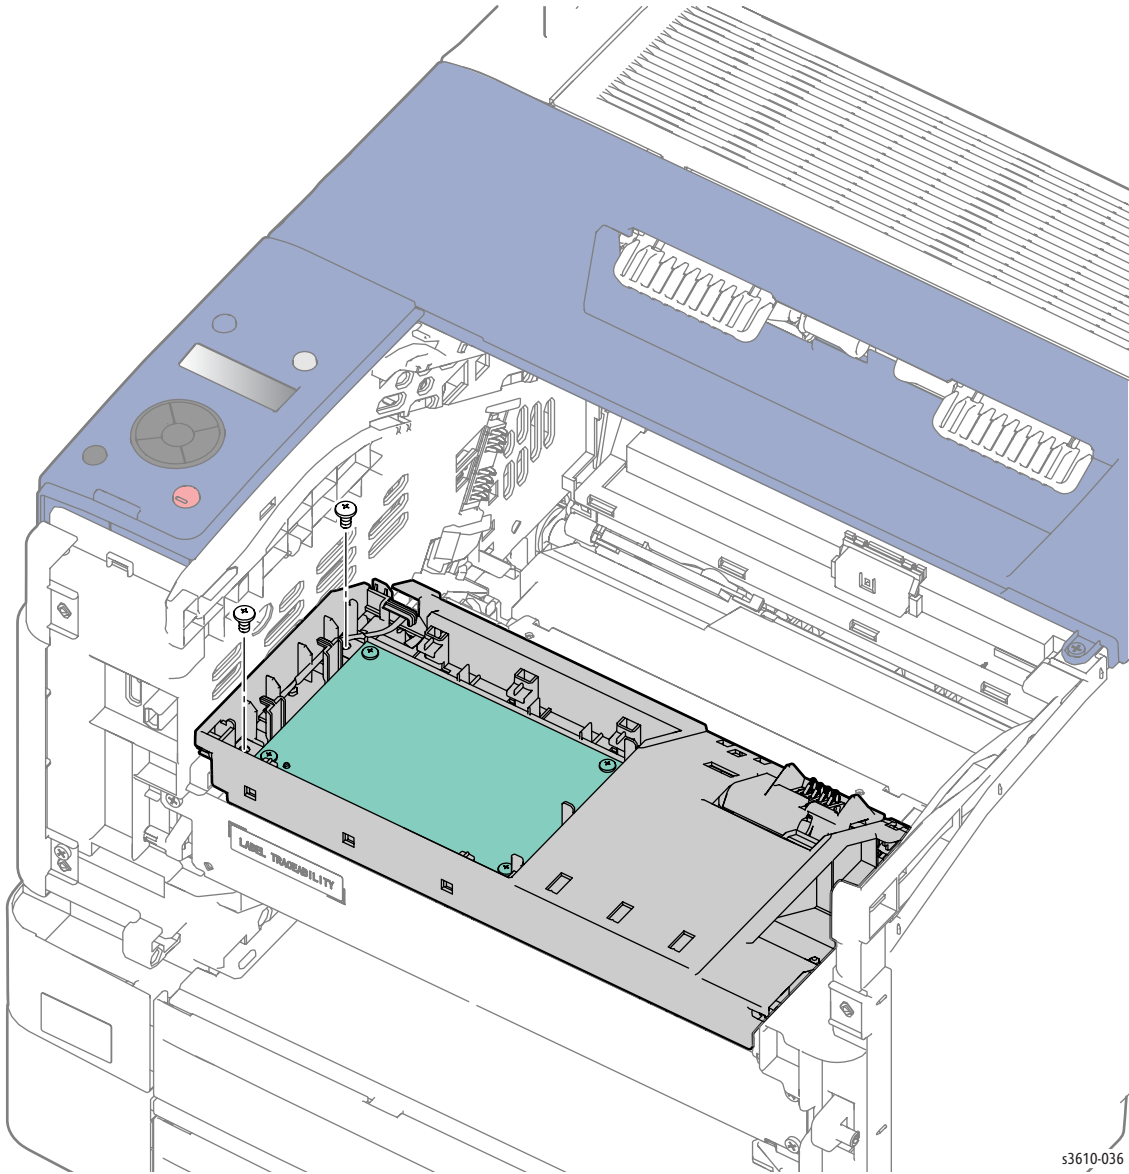

Figure 2
8. Remove 2 screws (silver, M3, 6mm) that secure the MCU Housing to the chassis. (Figure 2)